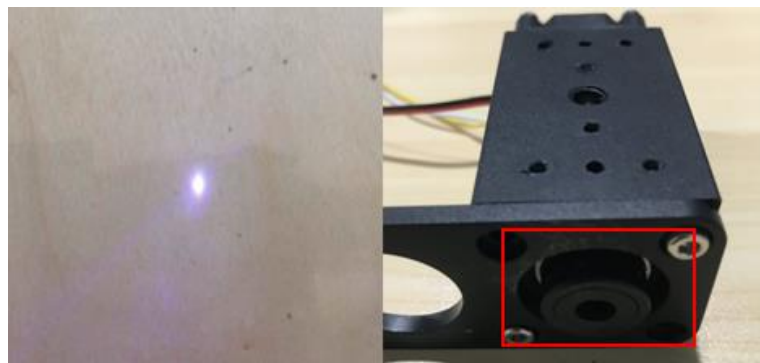

Figure 6.18 Adjust focus
- If the focal length still cannot focus, you can rotate clockwise the focal length of the laser head to adjust, as shown in Figure 6.18.